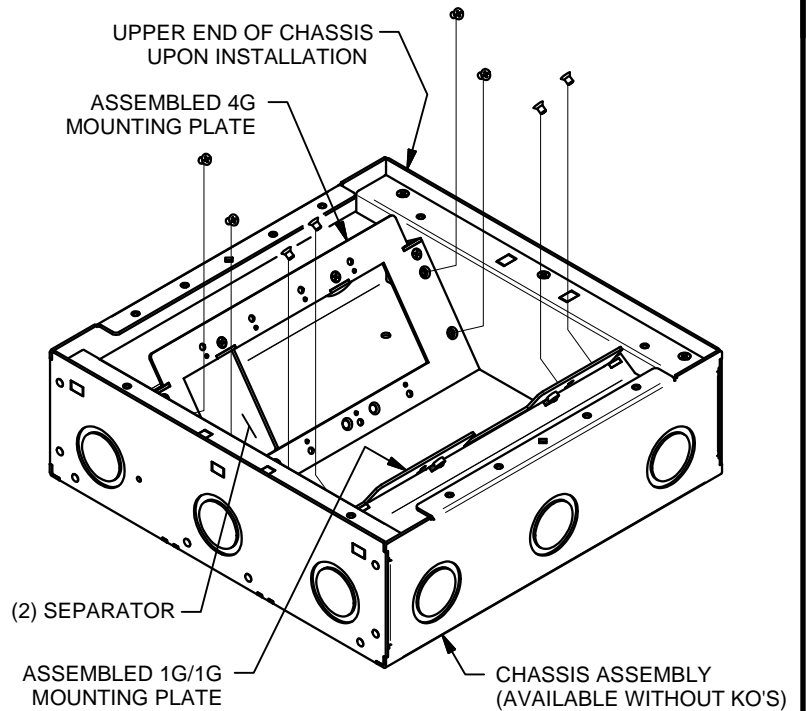

FIGURE 1
1. REMOVE ASSEMBLED MOUNTING PLATES FROM CHASSIS AS SHOWN IN FIGURE 1, SETTING PLATE AND SCREWS ASIDE.
6. REINSTALL MOUNTING PLATES AS SHOWN IN FIGURE 1. USE SEPARATOR AS REQUIRED.